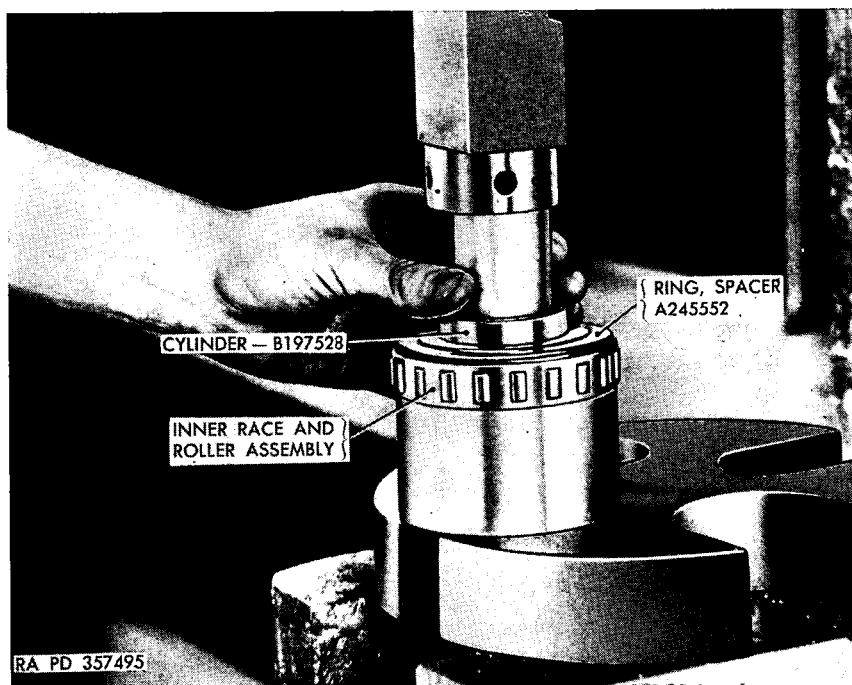

Figure 53. Removing hydraulic motor roller bearing and spacer ring.
h. DISASSEMBLE DRIVE SHAFT ASSEMBLY (figs. 21, 22, 53, 54, and 128). Place assembly in press with ported end of drive shaft up (fig. 53). Force spacer ring and roller bearing off cylinder. Lift rolling pistons out of cylinder. If a rolling piston sticks in a cylinder hole, insert a No. 8-32 screw in end of piston to pull it out. Front ball bearing should not be removed from drive shaft unless bearing is worn and needs replacement. To remove front ball bearing, insert